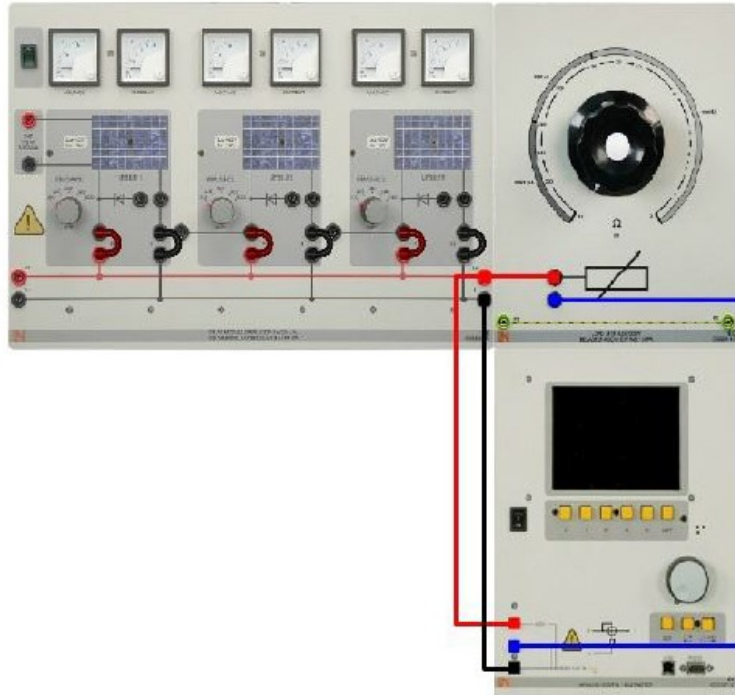

Fig. 3.7.1.
3. Set up the experiment as shown in Fig. 3.7.1.